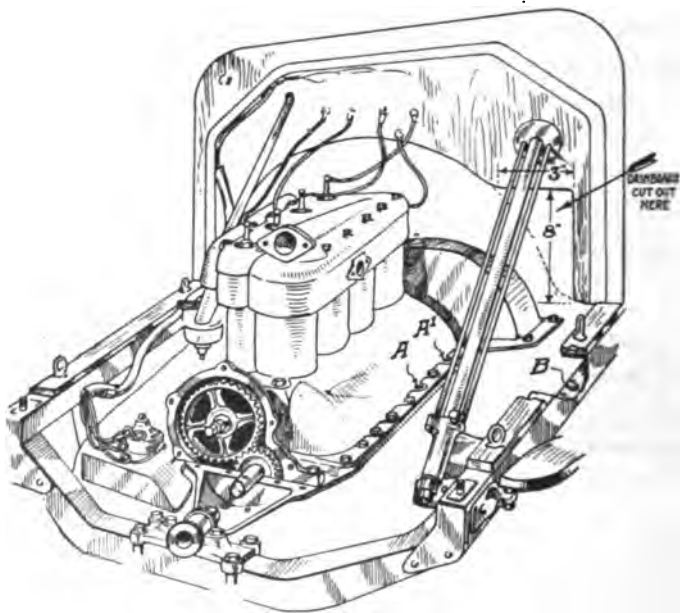

Fig. 370. Ford Frame Stripped for Mounting Shaft-Driven Genemotor
**Preliminary Adjustments.** Before dismantling the engine, be sure that it is in good running condition and that the carburetor is properly adjusted. Remove the radiator with the water-pipe and elbow connections, starting crank and claw or dog clutch, fan bracket complete with fan and belt, fan-drive pulley on crankshaft, timer or commutator complete, timing-gear cover (leave paper gasket and engine bolts *A* and rear sill bolt *B*, Fig. 370). Cut out the dashboard as shown. Remove the felt packing rings used around the crankshaft